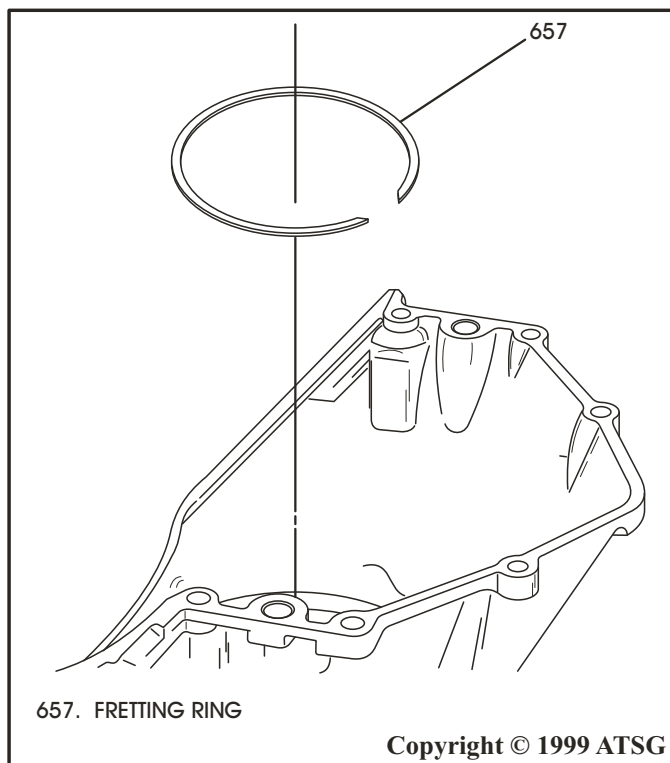

Figure 105
4. Install the "fretting" snap ring into the proper groove in the case, if it was removed, as shown in Figure 105.